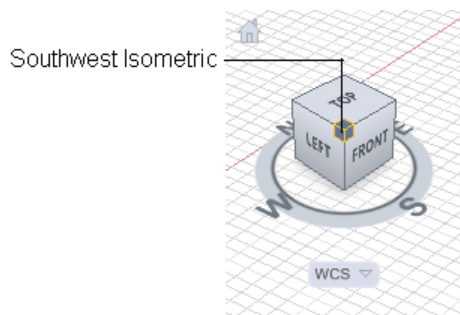

Figure 2-39 ViewCube showing the SW Isometric
1. Start a new file using the *acad3D.dwt* template in the **3D Modeling** workspace and make sure the **Ortho Mode** and **Dynamic Input** buttons are chosen. Then, change the drawing view by using the ViewCube. The view needed is **SW Isometric**. The Southwest view of the ViewCube has three hotspots: bottom, edge, and top. You need to select the top hotspot to get the required view. Refer to Figure 2-39 for the SW Isometric hotspot. However, you can check different hotspots and view the model in different angles by using the ViewCube.